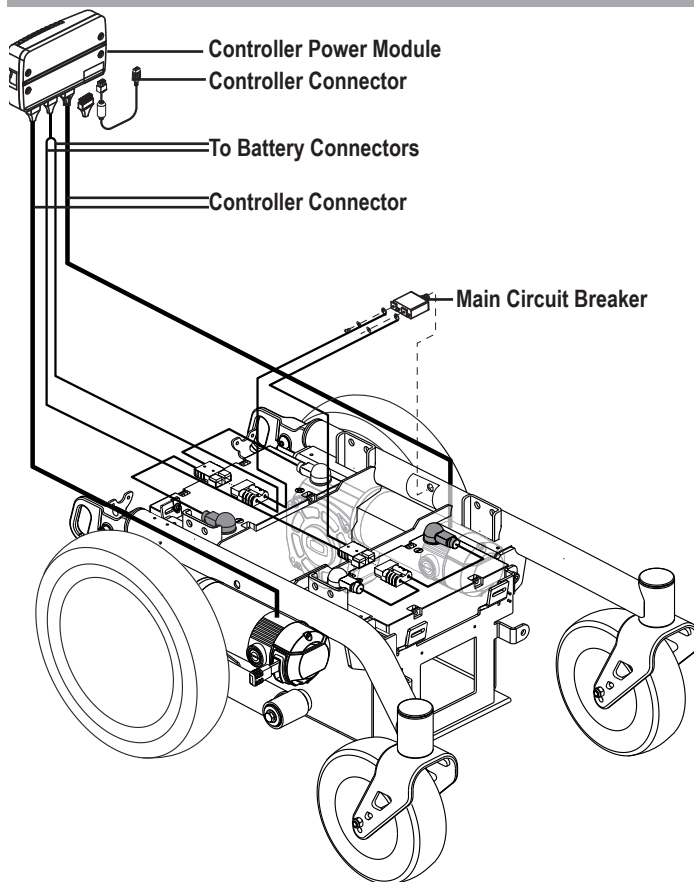

Figure 1. Electrical Components
Your power chair has two main assemblies: the seat assembly and the power base assembly. Typically, the seat assembly includes the armrests, seatback, and seat base. The power base assembly includes two motor/brake assemblies, two drive wheels, two caster wheels, two anti-tip wheels, two batteries, and wiring harnesses. **See Aspen (page 4) and figure 1.**
The electrical components consist of the controller assembly, the batteries, and the motors. The batteries, motors, and controller power module (if equipped) are located on the power base assembly. The controller is located on the seat assembly. Connectivity between the controller and the motors, batteries, and the battery charger is provided by one or more wiring harnesses. **See figure 1.**
5. Plug the controller connector into the rear of the power base. See **figure 1**.